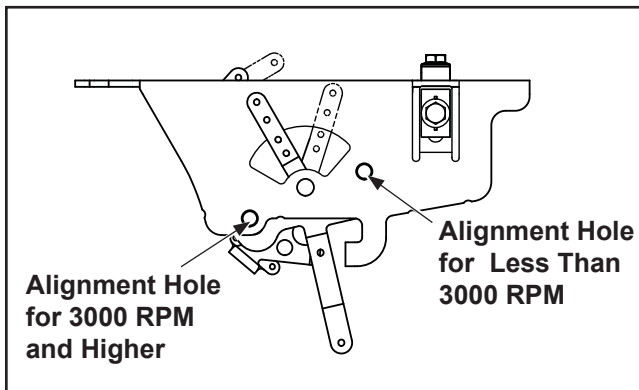

**Figure 5-15. Alignment Hole in Speed Control Bracket and Throttle Lever. (Early Models)**
3. **Early Models:** Early models use a single alignment hole to set the engine RPM. Align the hole in the throttle lever with the hole in the speed control bracket by inserting a pencil or 6.35 mm (1/4 in.) drill bit. See Figure 5-15.